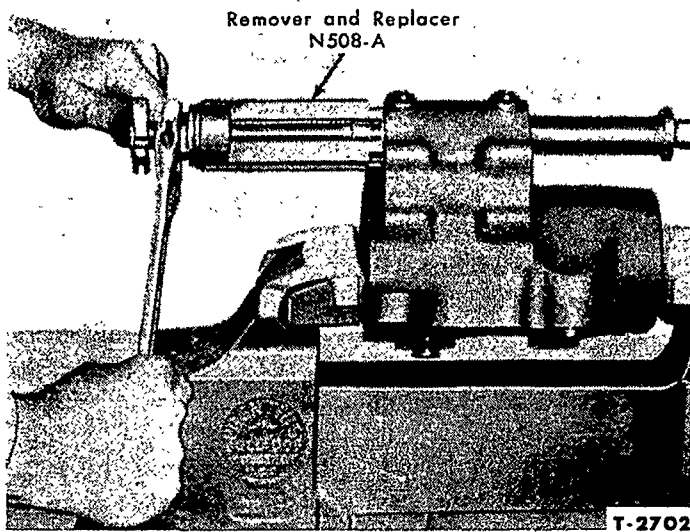
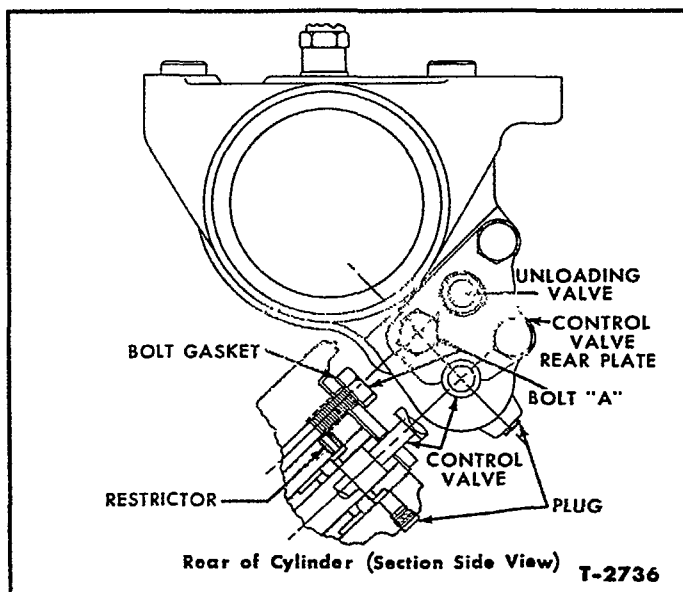

Figure 11—Removing Control Valve Bushing
Figure 12—Restrictor—Installed
5. Remove the control valve bushing with Remover and Replacer, N-508-A, Figure 11. If the lift cylinder is equipped with a special control valve to obtain slower hydraulic action, remove the plug and restrictor from the lift cylinder, Figure 12.
3. Install the cylinder flow restricter in the drilled passage which joins the control valve bushing bore to the drilled passage in which the hex head bolt "A" is installed, Figure 12. This is accomplished by removing the Allen head plug at the plate end of the cylinder and pressing the
10. Secure a new gasket and rear plate to the cylinder assembly with bolts and a new special steel washer as shown in Figure 12. Install the copper washer over the safety valve and screw it into position in the lift cylinder.